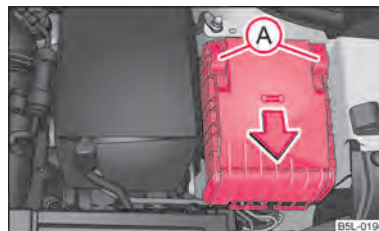

Fig. 178 Fuse cover in engine compartment
- Move the circlips (A) ⇒ fig. 178 as far as the stop, the symbol ⚡ appears behind the circlip and remove the cover.